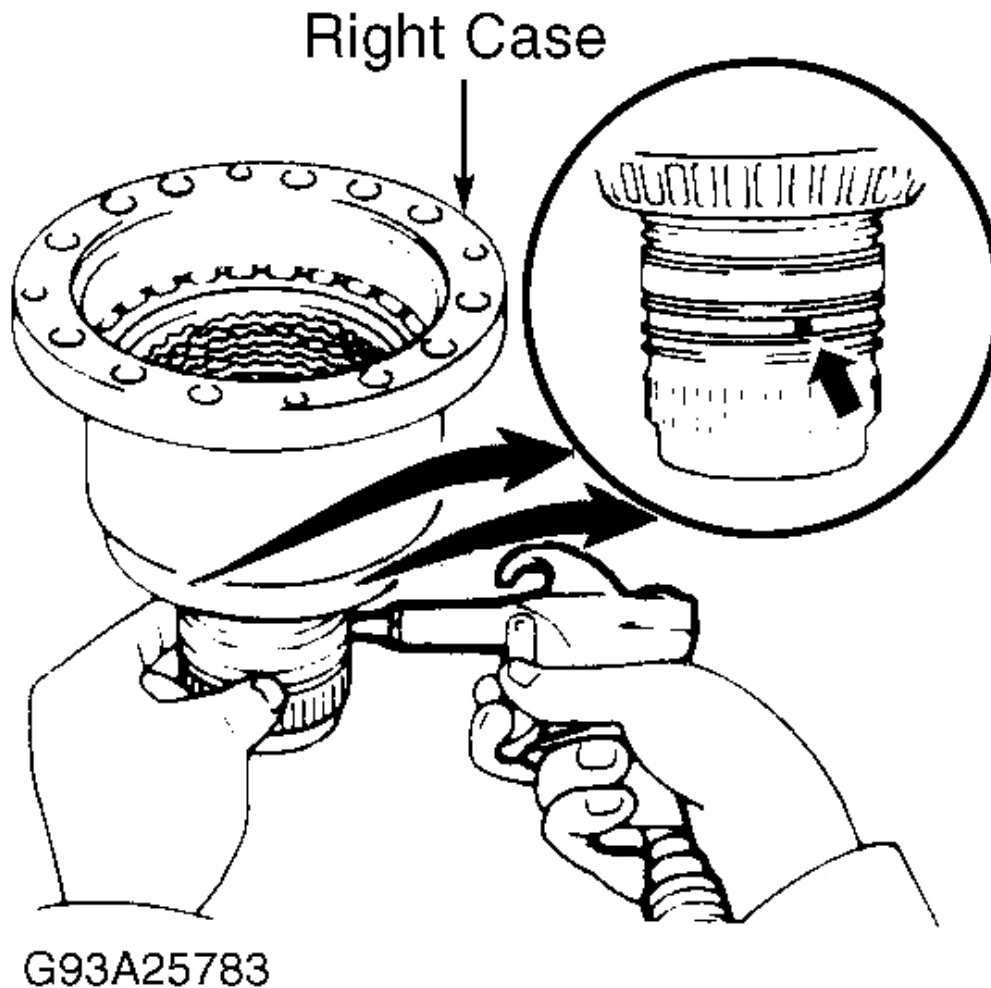

Fig. 50: Checking Operation Of Differential Clutch Pistons
6. Remove No. 1 thrust washer. Check operation of clutch pistons. Plug one hole in right case with your hand. Apply compressed air into other hole and confirm pistons move. See **Fig. 50** .